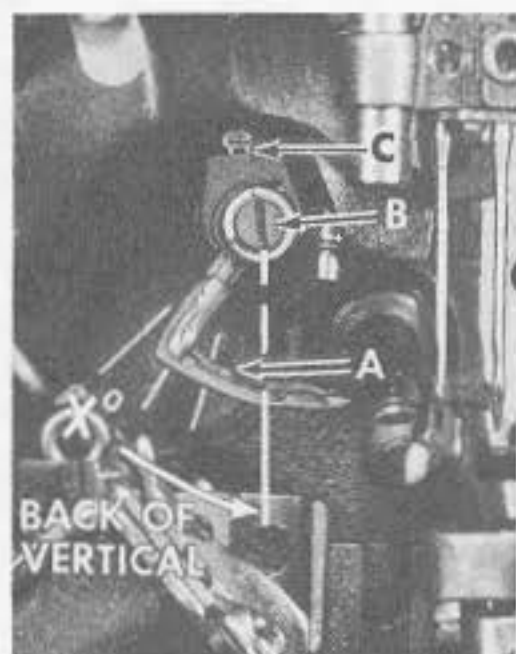
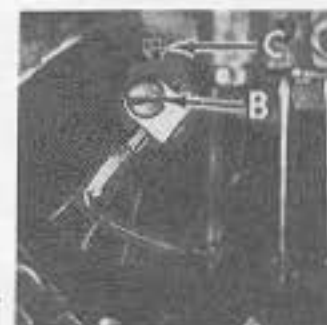

Fig. 10
Fig. 10A
Insert upper looper or spreader (A, Fig. 10) in its holder. Screw (B) holds the looper or spreader in its holder and permits looper or spreader to be pushed in or out, or turned around its shank. Screw (C) in the collar, holds the holder in the shaft and allows the holder to be rotated or adjusted laterally.
When looper or spreader is at the right end of its stroke, the holder should be set to position the looper or spreader shank approximately "X" degrees back of vertical and flush with the top of holder (Fig. 10), on all Styles except 39800 AA, AB, and approximately 1/16 inch (1.59 mm) above the holder on Styles 39800 AA, AB. On later machines with the new looper/spreader holder (See Fig. 10A), settings are the same for "X", "Y", and "Z" except for location of shank with respect to top of holder. This setting should be approximately 1/32 inch (.79 mm) above the holder on all Styles except 39800 AA, AB and approximately 3/32 inch (2.38 mm) above the top of holder on Styles 39800 AA, AB. These settings may vary depending on needle